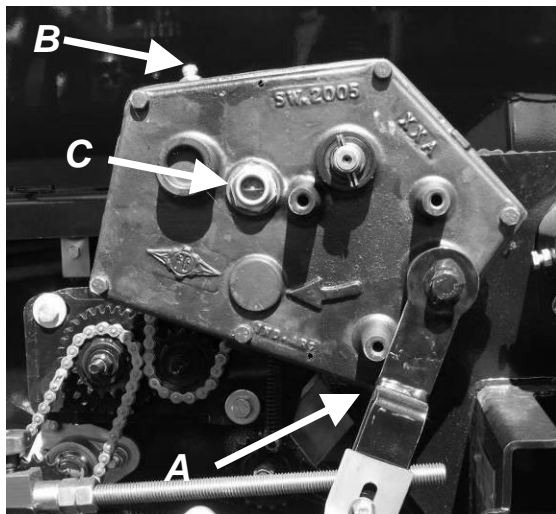

Figure 23
- ☞ The variable transmission [Figure 23] which drives the distribution system uses clear trans-hydraulic oil. Capacity: 1.75 liters.
To drain the oil; remove the drain plug [Figure 23, **A**] at the bottom of the transmission housing. To facilitate the flow, remove the filler plug [Figure 23, **B**]. Reinstall the drain plug and fill the transmission with clear trans-hydraulic oil to recommended level. A window indicates the oil level [Figure 23, **C**]. Check the oil level every day, fill as needed.